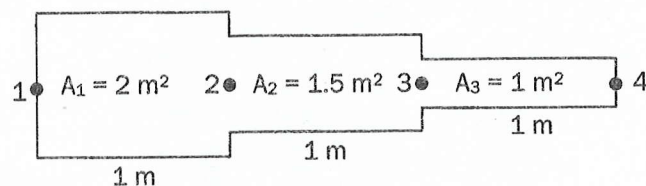

Figure Q4[a]
- Q4. [a] For the smooth pipe of variable cross section shown in Figure Q4[a], determine the nodal fluid heads or potential at the junctions, the velocities in each section of pipe and the volumetric flow rate. The nodal fluid heads or potential at the left end is $p_1 = 15 \text{ m}^2/\text{s}$ and that at the right end is $p_4 = 1 \text{ m}^2/\text{s}$.